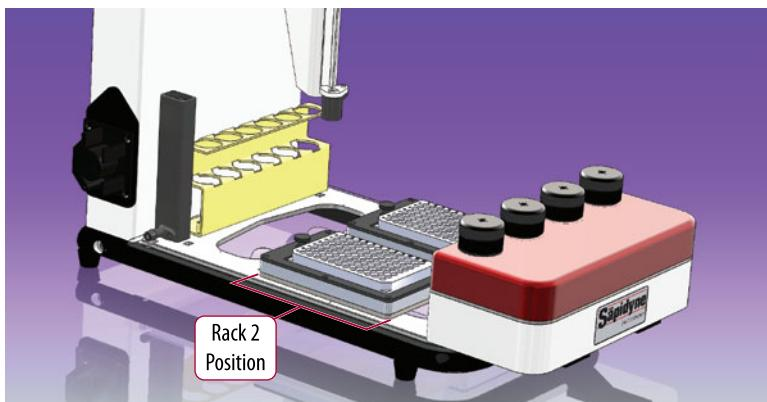

Figure 1. Microtiter base plate in the correct position.
- Place the microtiter base plate on the autosampler so that the adjustment knobs are closest to the wash station and it sits where Rack 2 would normally fit (*Figure 1*).